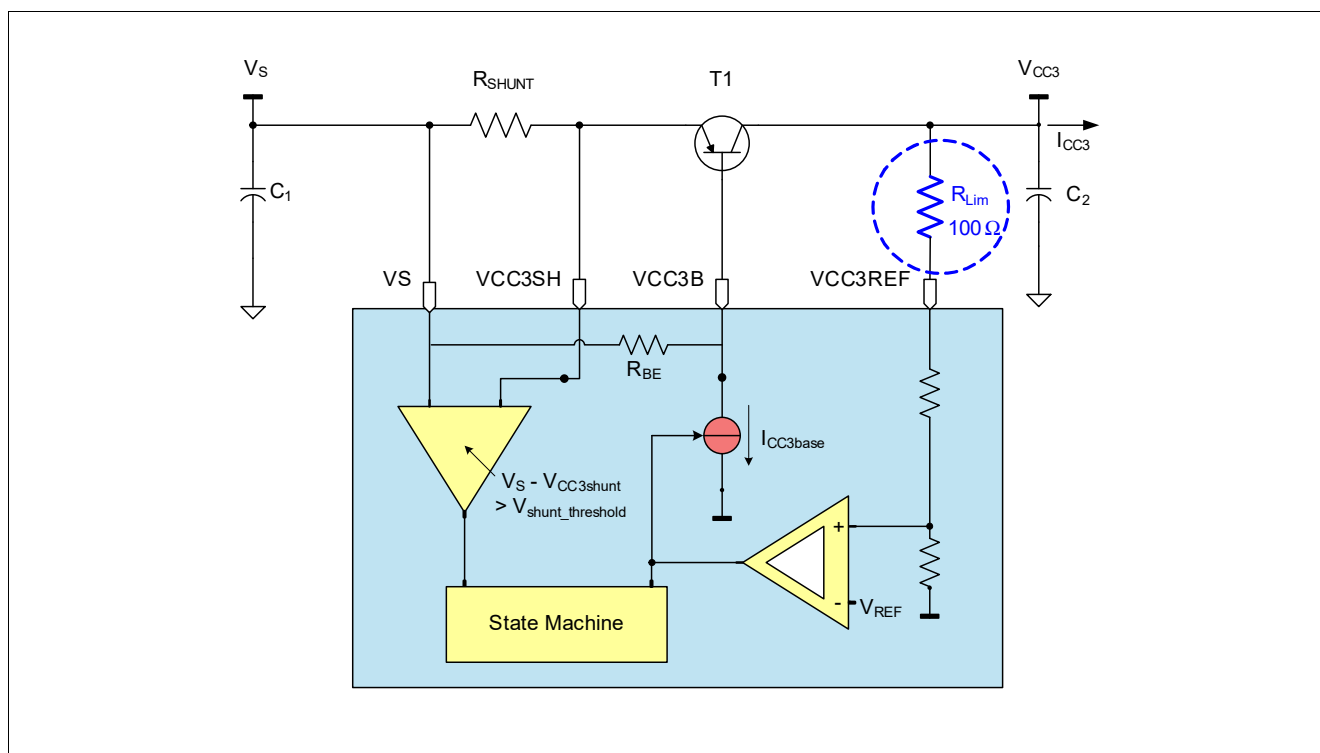

Figure 19 Protecting the VCC3 against inductive short circuits when configured as an independent voltage regulator for off-board supply
3. If the VCC3 output voltage is supplying external off-board loads, the application must consider the series resonance circuit built by cable inductance and decoupling capacitor at the load. Sufficient damping must be provided (e.g. a 100Ohm resistor between the PNP collector and VCC3REF with 10uF capacitor on collector - see also Figure 19).